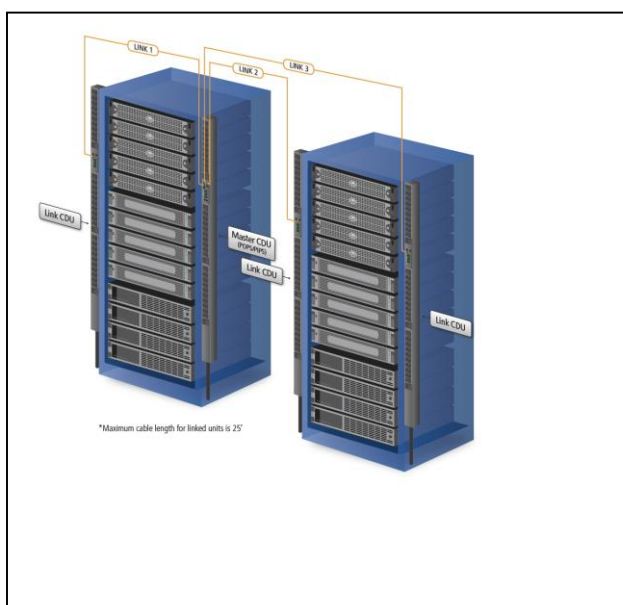

Figure 9. Linking of Multiple PRO2 CDU's
- Linking of 4 Units Using 1 IP (see figure 9)